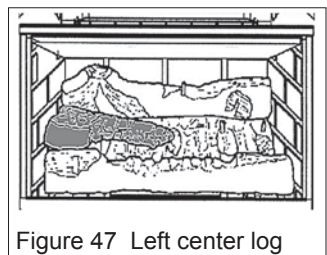

Figure 47 Left center log
4. Place the right side center log in position locating it on the two locating pins on the left hand side of the ash bed with its "nose" resting at the center of the ash bed. See figure 47.